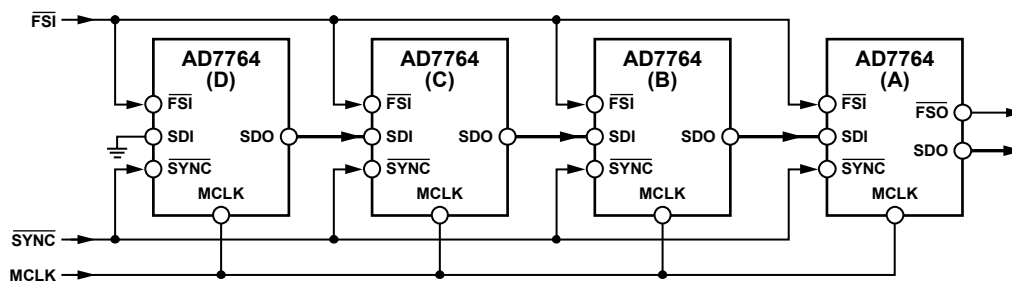

Figure 47. Daisy-Chaining Four Devices in Decimate 128× Mode Using a 40 MHz MCLK Signal
The block diagram in Figure 47 shows how to connect devices to achieve daisy-chain functionality. Figure 47 shows four AD7764 devices daisy-chained together with a common MCLK signal applied. This configuration works in decimate 128× or decimate 256× mode only.
Referring to Figure 47, note that the SDO line of AD7764 (A) provides the output data from the chain of AD7764 converters. Also, note that for the last device in the chain, AD7764 (D), the SDI pin is connected to ground. All of the devices in the chain must use common MCLK and SYNC signals.